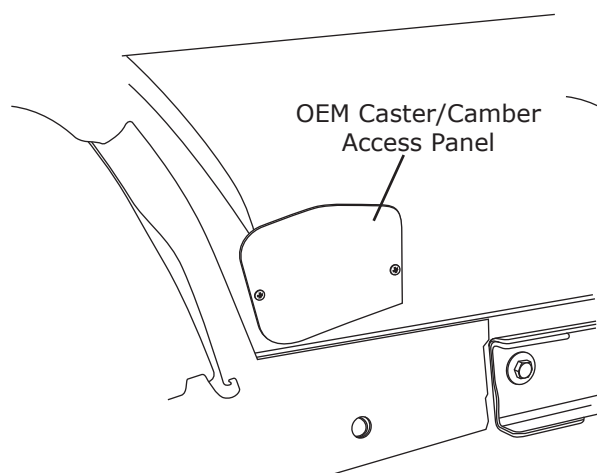

Figure 10
1. Remove OEM caster/camber access panel from passenger side wheel well (discard) (See Figure 10, below).